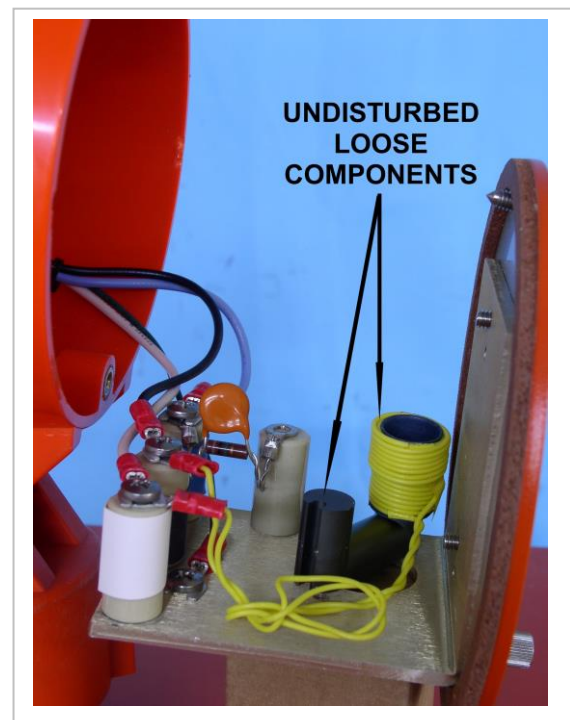

Figure 18b
- Lift the HV secondary coil away from the bottom half of the ferrite core (Figure 18b).